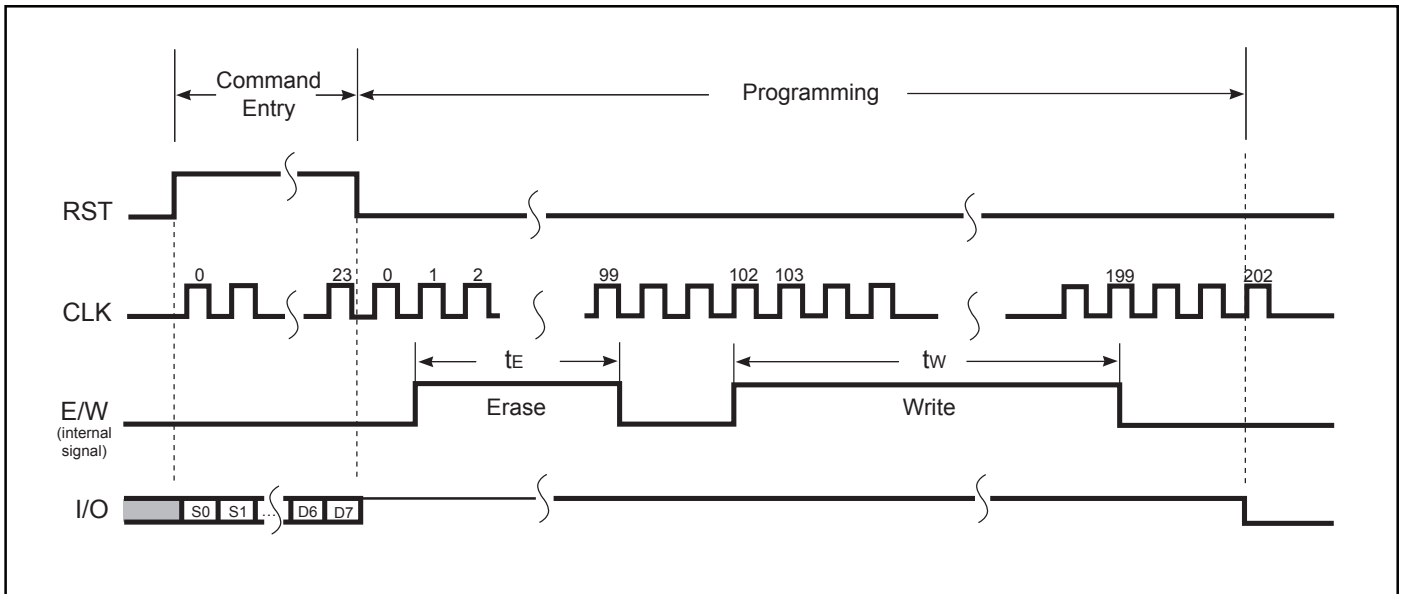

Figure 8. Programming Erase and Write
1. Erase and subsequent write if 203 clock pulses at $f < 20$ KHz are applied. (See Figure 8.)
The write/erase data byte with protect bit command operates similarly to the write/erase data byte without protect bit command except that it also writes 0 to the corresponding protect bit. After the protect bit is set to 0 (write protection enabled), it cannot be changed again. (See Figures 8 and 9.)